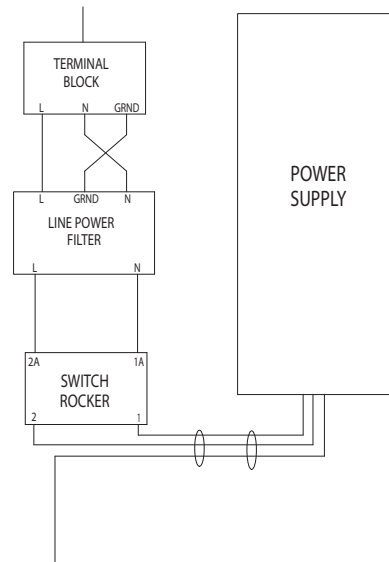

FIG. 10. Electrical Schematic
2. Connect electrical cord to the terminal block as shown in FIG. 10.